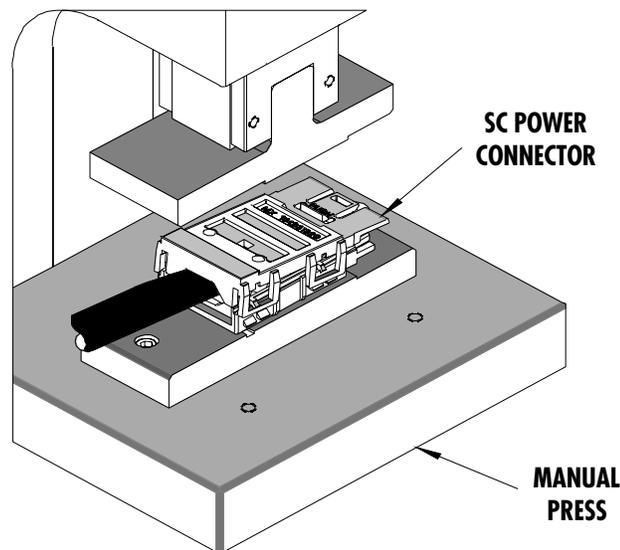

Figure 6
6. With connector in position as shown in Figure 6, pull the ram handle from the full up position to the full down position and return.